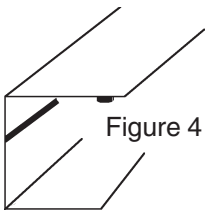

Figure 4
4. Run a bead of sealant on inside of top lip of hanging channel. (See Figure 4.)